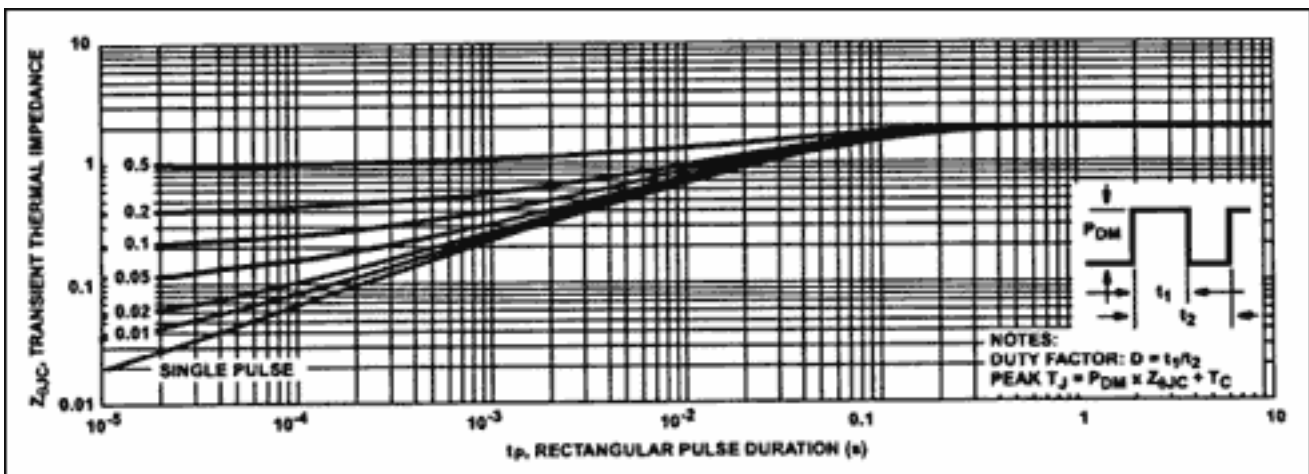

Figure 4. Transient thermal resistance, Fairchild IRF530 (courtesy: Fairchild Semiconductor).
- Determine MOSFET temperature rise during the transient. We want the MOSFET to survive this power pulse without overheating. So it is now time inspect the transient thermal resistance curve from the Fairchild IRF530 data sheet as reproduced in **Figure 4**. Entering the curve at $75\mu\text{sec}$ (7.5×10^{-5}) on the horizontal axis, and rising vertically to intercept the solid (single pulse) line, we read the transient thermal resistance on the vertical axis to be $\theta_{JC} = 0.05^\circ\text{C/W}$. We calculate junction
7. Determine the current and MOSFET power dissipation under short-circuit conditions. If a short circuit is placed on the output of the hot-swap circuit at C_L , Q1 current is determined by $I_{D(ON)} \approx 50A$ as before. The short circuit places the entire supply voltage across the MOSFET in series with the fuse resistance. Neglecting the fuse resistance provides a worst-case calculation of $P_{D(SC)} = 48V \times 50A = 2400W$. We already know from Step 6 that the fuse must blow at 48A in 8msec. Therefore, we are curious to know if Q1 will survive 2400W for 8msec. Entering the curve of Figure 4 at 8msec, we find a single-pulse thermal resistance of $0.59^\circ C/W$. A new calculation indicates a junction temperature rise of $0.59^\circ C/W \times 2400W = 1440^\circ C$. Even if the fuse should blow at 2msec (midway between the min and max curves) junction temperature rise would be $851^\circ C$. This is well above the melting point of aluminum die metalization, and the MOSFET would be destroyed in under 2msec. Q1 will fail shorted and the fuse will blow.